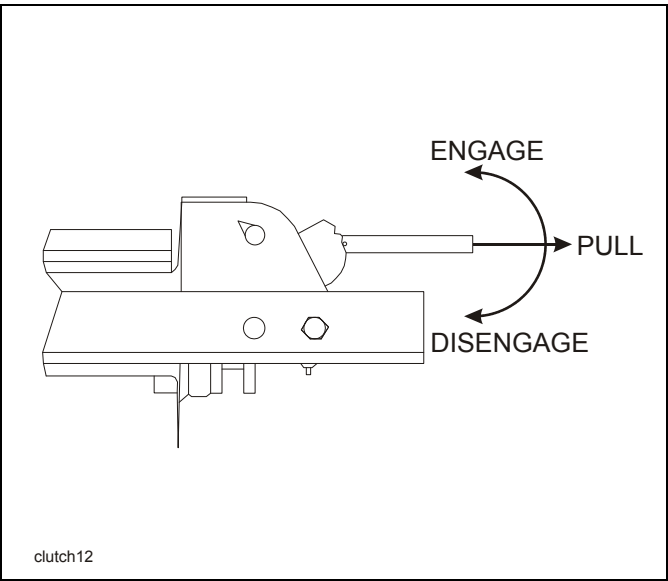

Figure 3-10: 12,000# Winch Manual Clutch
1. The WINCH CLUTCH HANDLE (See **Figures 3-10 and 3-11**) is located on the right or curb-side end of the winch assembly.